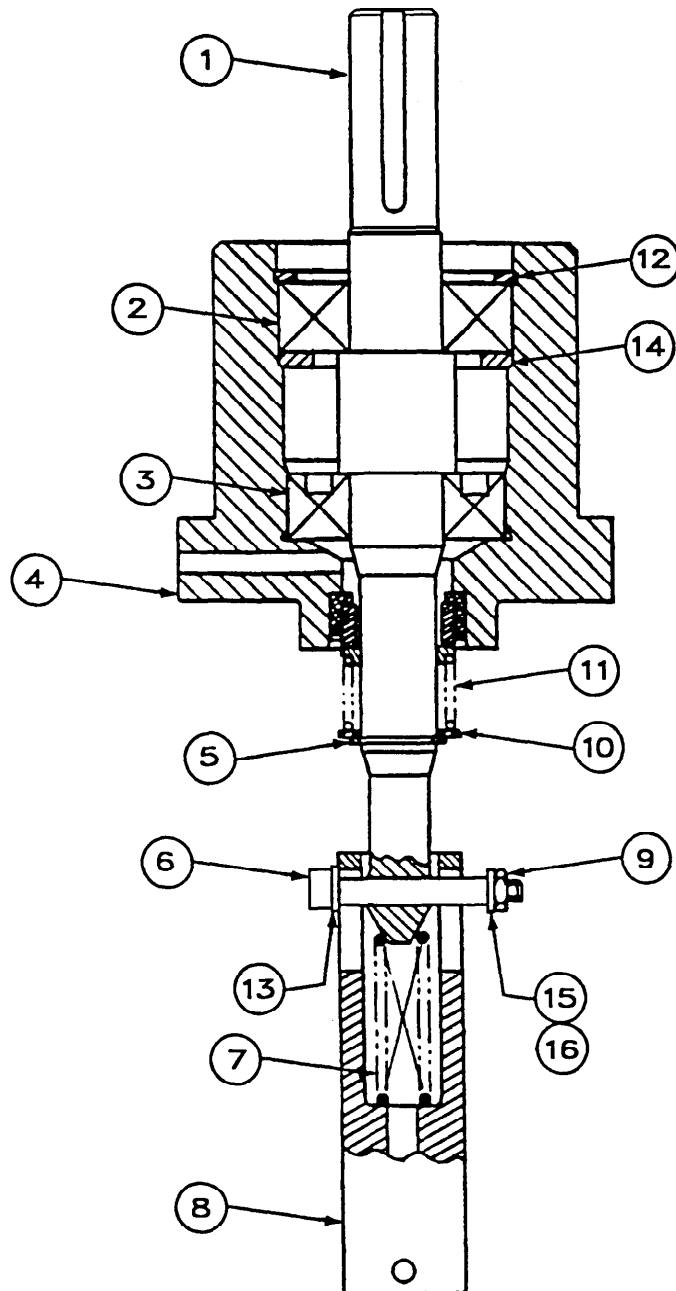

Figure 1 - FM-170 Drive Assembly with Rebuild Kit Components
**NOTE: All item numbers (in parentheses) refer to Figure 1 of this publication.**
**NOTE: Figure 1 and the kit parts list in this publication are similar to but not identical to Figure 8.14 and its accompanying parts list in the FM-170 service manual.**
2. Remove the locknut (9), socket head screw (6) and flat washers (13), then remove the compression spring (7) and drive coupling assembly (8). Discard the locknut, the socket head screw and one of the flat washers. Do not discard items 7 and 8.
3. Remove and discard the exterior retaining ring (5), flat washer (10) and spring for the face seal (11).
4. Remove and discard the upper retaining ring (12).
5. Press the drive shaft (1) out from the bottom of the drive body (4).
6. Remove and discard the old bearings (2 and 3) and face seal (11).
7. Press the new lower bearing (3) onto the drive shaft.
8. Place the new bearing retainer (14) on the drive shaft above the bearing.